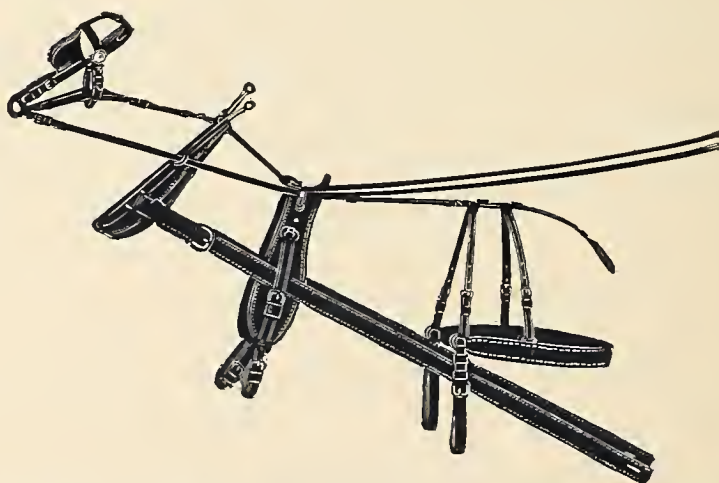

Fig. B 581.—One-Horse Wagon or Express Harness.
*The One-Horse Wagon or Express Harness.*—The harness shown at *Fig. B 581* is well suited for use with one horse on a farm or express wagon. For mules we can furnish a lighter harness, or for large horses a heavier one.